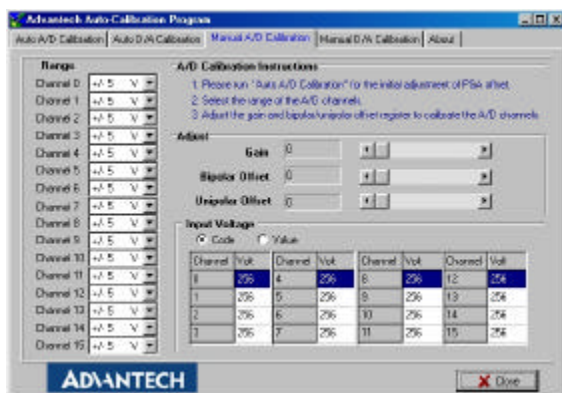

Fig. 5-16 Adjusting registers
Step 2: According to the difference between reference voltage and receiving data in PCI-1716/1716L, adjust the gain, bipolar offset and unipolar offset registers (Fig. 5-16)